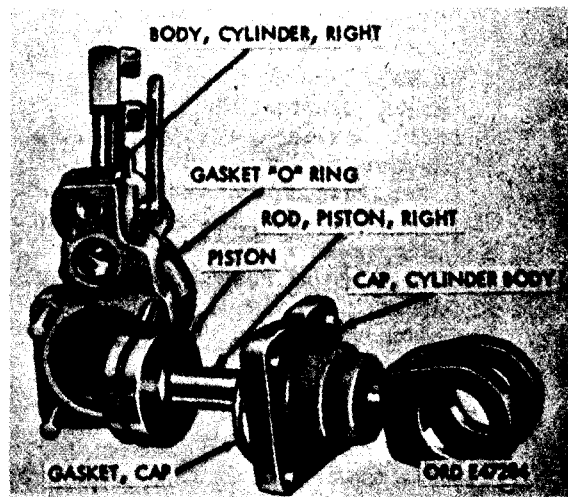
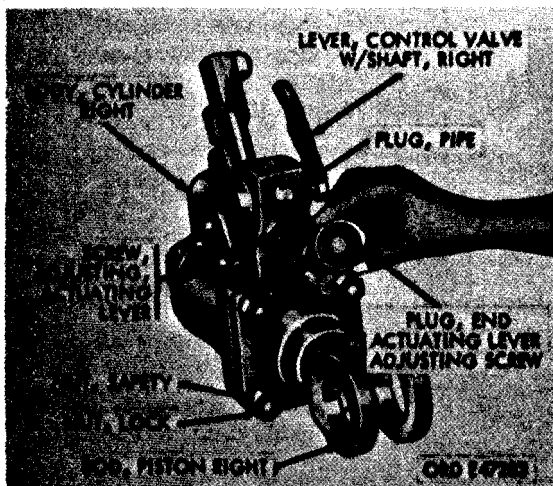

Figure 496. Piston and rod removed from right cylinder body
Figure 495. Remove actuating lever adjusting screw end plug
- (b) Remove actuating - lever - adjusting screw end plug (fig. 495), gasket (GG), and pipe plug (HH) from valve chamber in right cylinder body.
- (c) Use a thin wall socket wrench and remove cap screws (NN) and lockwasher (MM) from valve actuating lever (KK).
(4) Piston and cylinder body cap.
(a) Remove four locknuts and hex-nuts (fig. 495) from cylinder body cap (C). Remove cylinder body cap, cap gasket, piston, and right piston rod from right cylinder body (fig. 496).
- (b) Remove cotter pin (H), slotted hex-nut (G), and piston (F) from piston rod.
- (c) Insert a tapered tool under piston O-ring gasket (fig. 496) and remove gasket from piston (F).